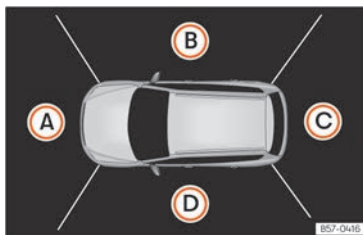

Fig. 145 Display of the Area View system: aerial view.
»» Fig. 145:
The aerial view is generated by combining the images from all the cameras »» Fig. 145. The top view can be selected by pressing the vehicle inside the zone.
Press on the different areas »» Fig. 145 (A) to (D) of the top view or reduced top view to select and set the corresponding view, which will be highlighted in orange.
The infotainment system's screen shows the top view >>> Fig. 145. If you press the button when driving above 15 km/h (9 mph), the image will not be displayed.